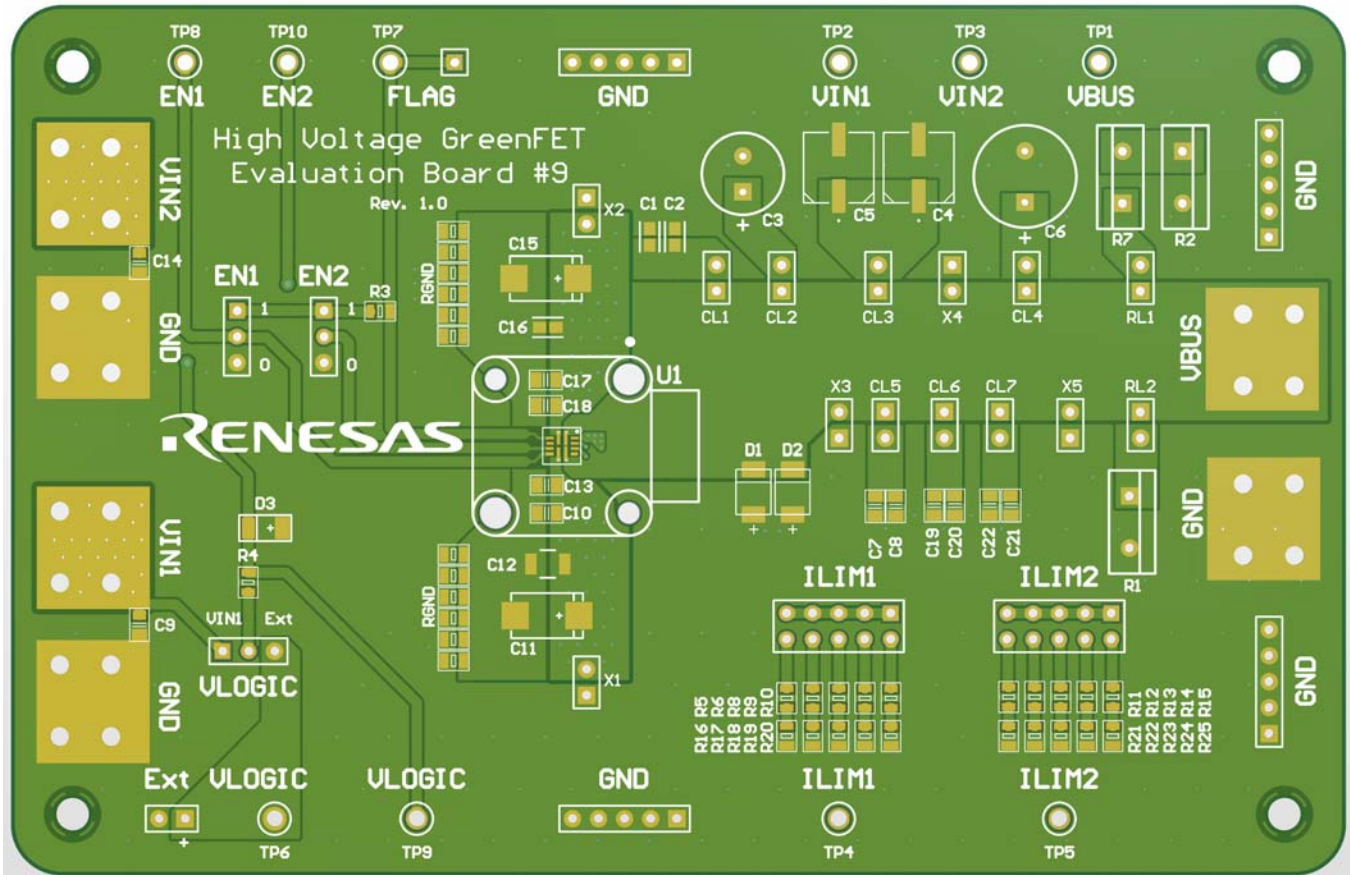

Figure 16. SLG59H1405V Evaluation Board
1. Since the VIN[1,2] and VBUS pins dissipate most of the heat generated during high-load current operation, it is highly recommended to make power traces as short, direct, and wide as possible. A good practice is to make power traces with an absolute minimum widths of 15 mils (0.381 mm) per Ampere. A representative layout, shown in Figure 16, illustrates proper techniques for heat to transfer as efficiently as possible out of the device;
A High Voltage GreenFET Evaluation Board for SLG59H1405V is designed according to the statements above and is illustrated on Figure 16. Please note that evaluation board has VIN[1,2]\_Sense and VBUS\_Sense pads. They cannot carry high currents and dedicated only for RDSON[1,2] evaluation.